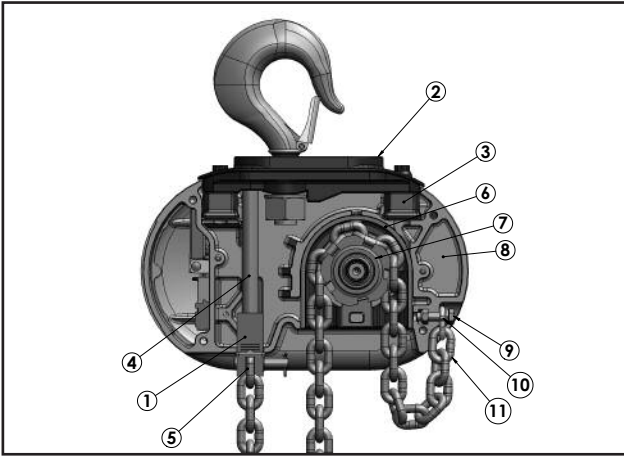

Figure 7. Attaching Load Chain Double Reeved Models
Remove the hook suspension,(2) suspension screws, (1) dead end pin, (1) washer, and (1) cotter pin from the packaging. It should be noted that the suspension includes a dead end bolt and block for supporting the dead end of the load chain as shown in Figure 7.
Place the suspension assembly into the recess on top of the hoist. The dead end block should project through the bottom of the hoist with the pin hole and slot aligned to the underside of the hoist as shown in Figure 7. If these are not aligned as shown, lift the head of the bolt from the hex recess in the adaptor and turn the bolt and block assembly and reseal the bolt head to obtain the proper alignment. **Do not** change the position of the dead end block on the bolt to attain this alignment.
The dead end of the load chain is temporarily positioned (a few links from the end) by a wire tie. **Do not remove this tie before attaching the chain to the dead end block.** (See Fig. 7)